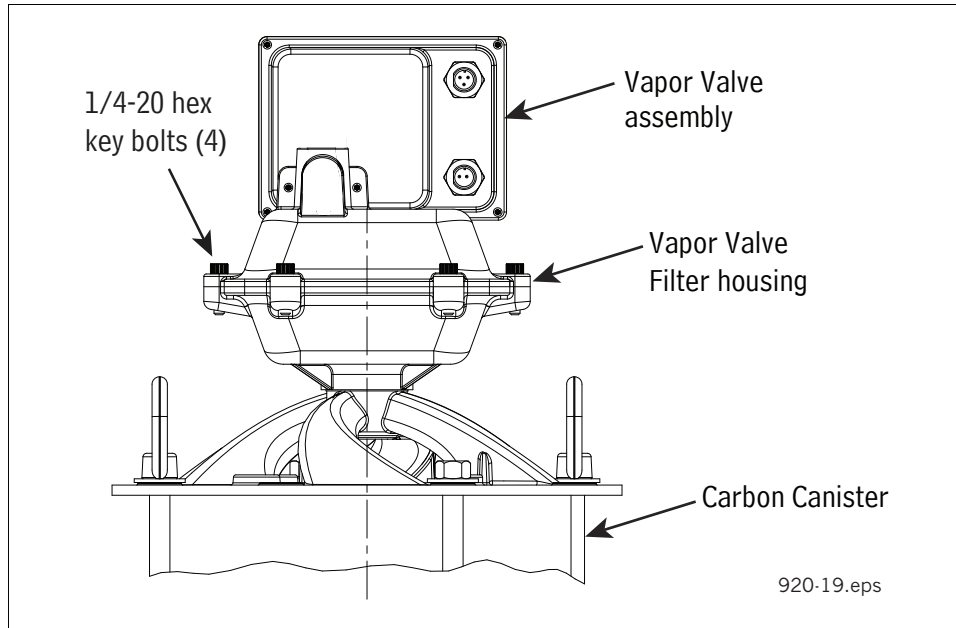

Figure 17. Removing vapor valve assembly
2. Remove the four 1/4-20 x 1 inch hex key bolts from the top of the vapor valve filter housing (see Figure 17).